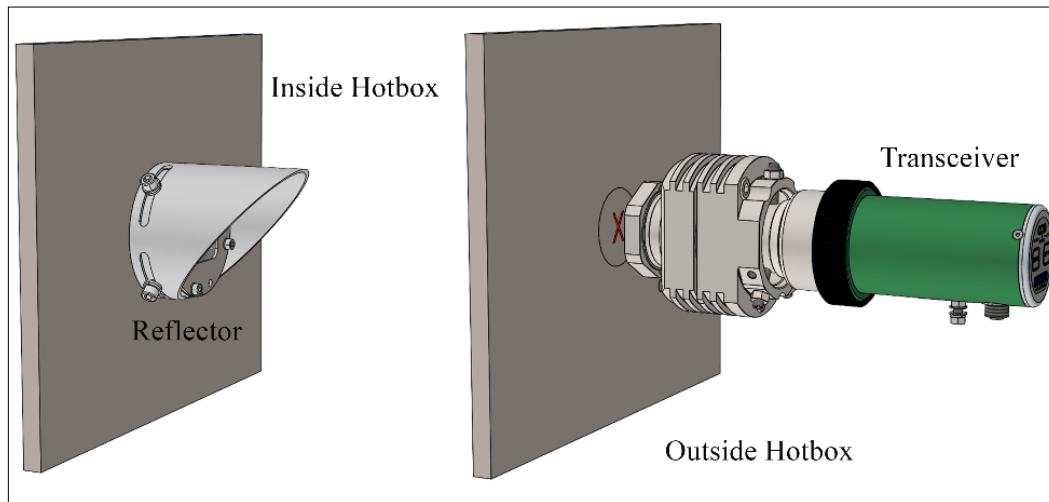

Figure 5-1: Illustration of Reflector & Transceiver
- The transceiver must be installed outside the hotbox using the alignment bracket. Choose a location that is easily accessible and that is not inconvenient for the operation and maintenance of the engine - Figure 5-1.
- The reflector must be installed inside the hotbox. The location must be suitable for service and cleaning while also protecting the equipment from any mechanical damage - Figure 5-1.